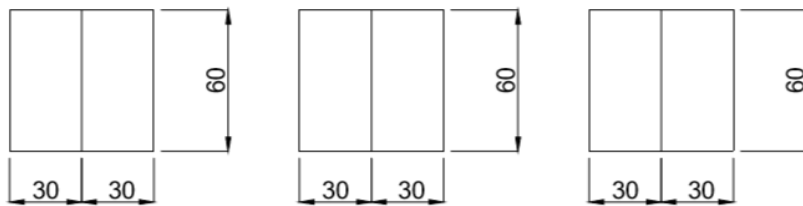

Fig 2
3. Mark all the three pieces into 30 x 30mm of dimension as shown in fig 2.